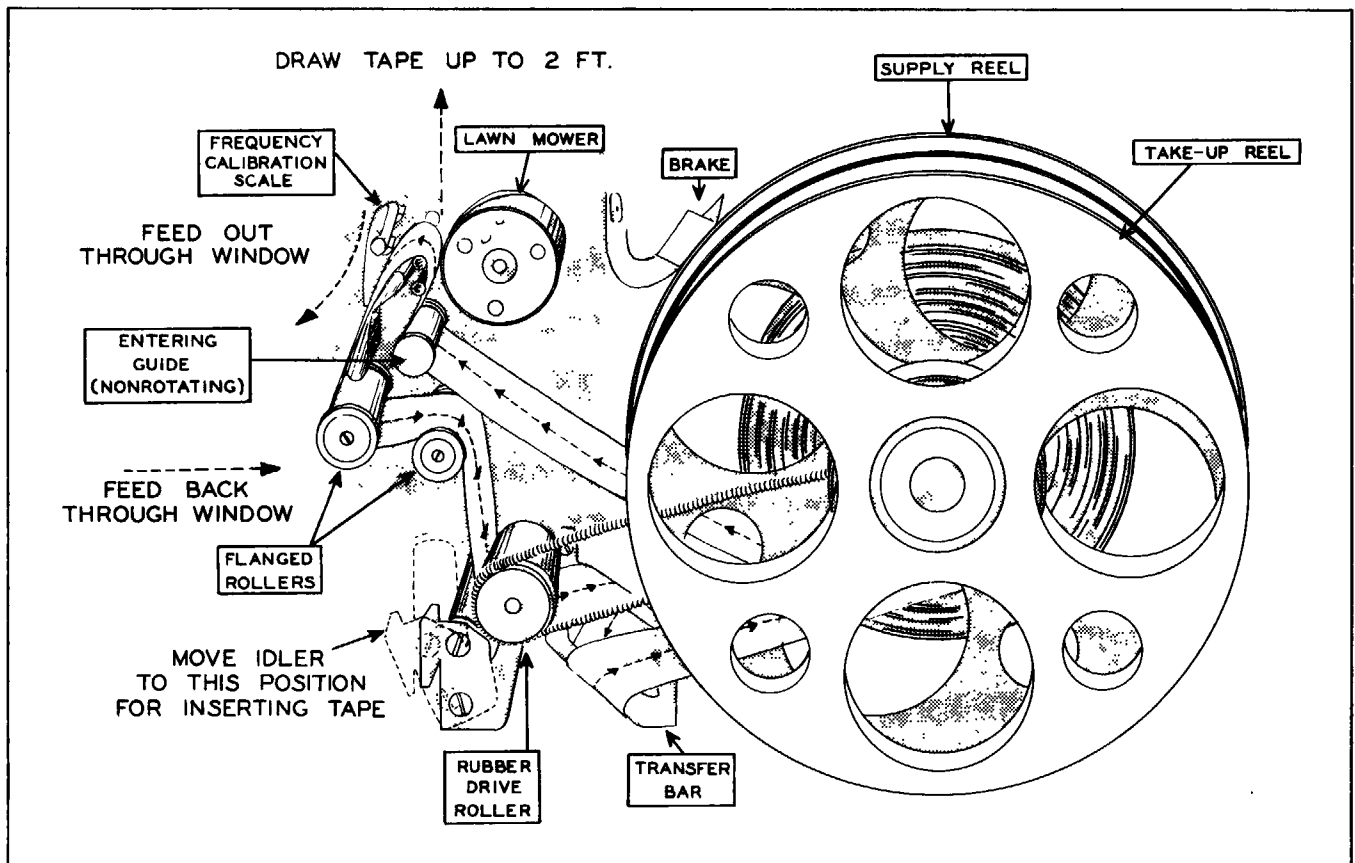

Figure 5-6. Drive Mechanism for Recording Tape
c. Install the new roll of tape on the outer reel and thread through the recording mechanism as shown in figure 5-6. Make sure the tape is centered between the flanges of the guide rollers.